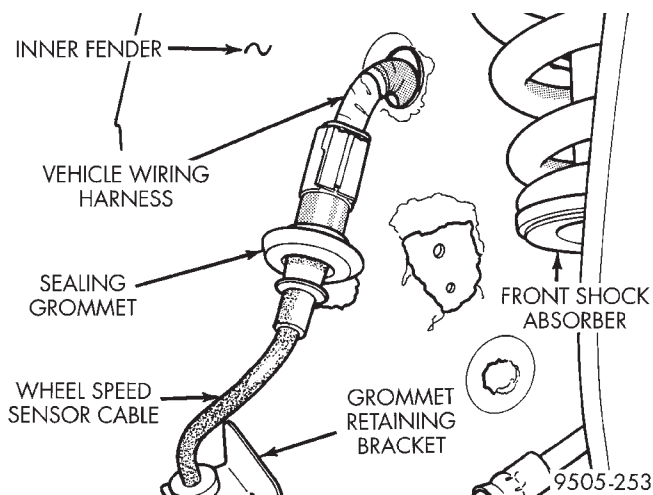

**Fig. 32 Wheel Speed Sensor Connection To Vehicle Wiring Harness**
(4) Remove speed sensor sealing grommet from the inner fender (Fig. 32). Then unplug the speed sensor cable from the vehicle wiring harness (Fig. 32).
(1) Connect the wheel speed sensor cable connector to the vehicle wiring harness (Fig. 32).